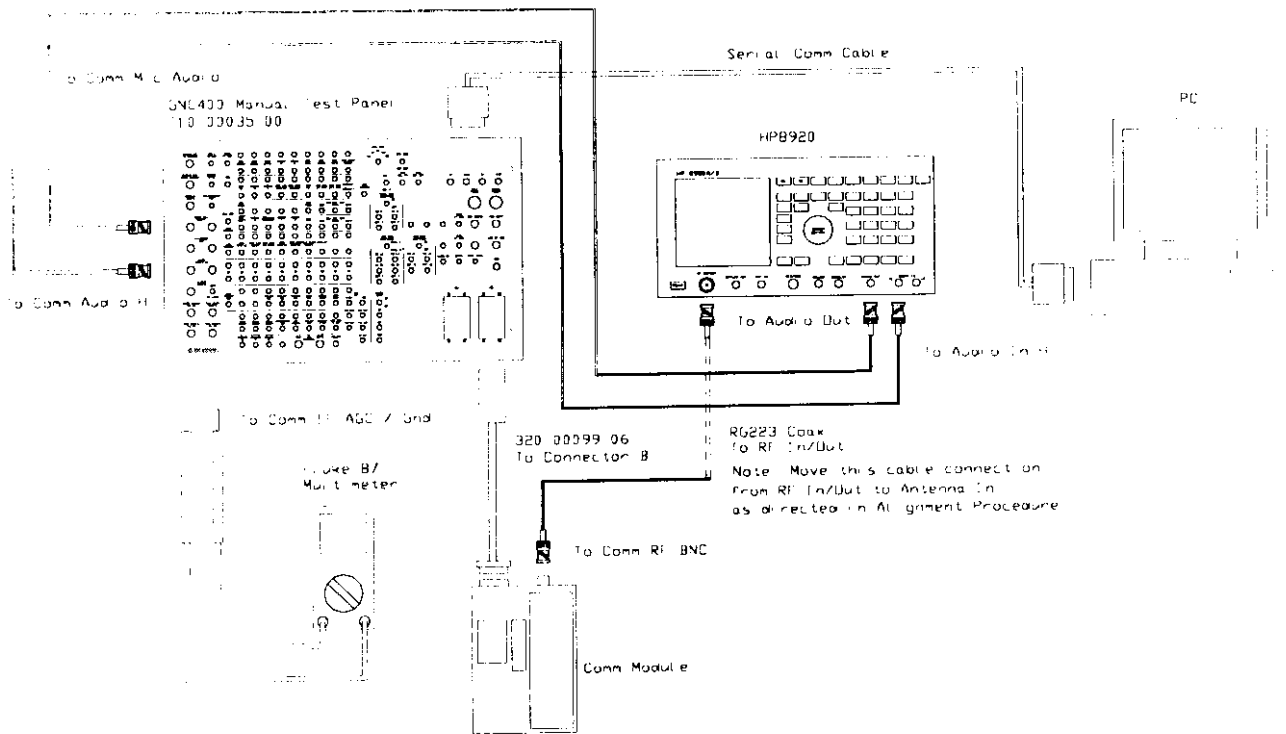

Figure 1
3. Make the following connections for the Manual Test Panel as shown in Figure 1 and described here. Connect an approved 6 ft RG-223 cable between the comm transceiver antenna connector and the HP8920A/B RF IN/OUT connector. Connect the 320-00099-06 Ca Assy, (B), GNS400 COMM to the 26-pin high-density connector on the back of the comm (J2) and to the surface mount connector J26 on the top side of the comm. Connect the other end of the cable to the (B) connector on the manual test panel. Connect COMM AUDIO on Manual Test panel to HP8920A/B AUDIO IN HI. Connect Audio Out on HP8920A/B to Manual Test Panel connector marked AUDIO OUT FROM HP8920A/B. Connect serial port cable from PC to serial port input connector on manual test panel.